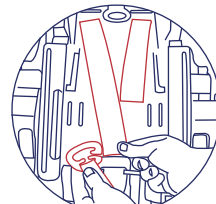
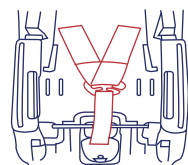

Fig. 33-2
Fig. 33-3
- 12.2.8) Reassemble the Harness Straps to the Belt Adjuster Plate. The left Harness Strap must be reassembled to the Belt Adjuster Plate first followed by the right Harness Strap (See Figure 33-2). Check that both Harness Straps are completely within the Belt Adjuster Plate loop as shown in figure 33-3.